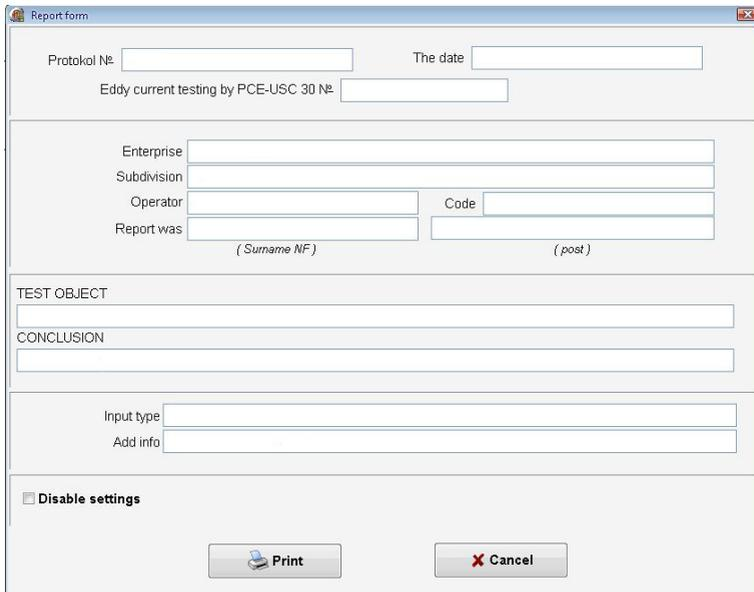

Fig. 36 – Report form of a testing carried out
When selecting **"Report"** item of the main menu, there appears a window for filling in the report form of the testing carried out (Fig. 36).
- Fill in the report form (Fig. 36).